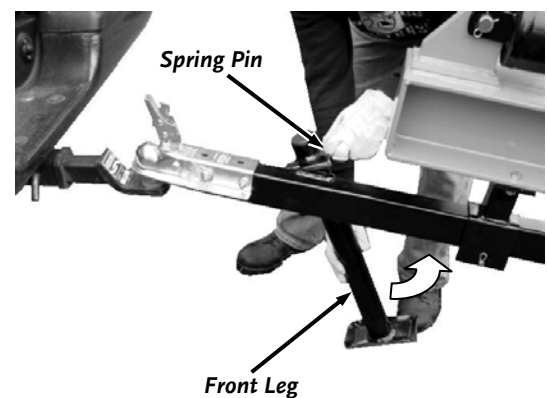

Figure 49
3. Raise the front leg to the towing position by pulling the spring pin (**Figure 49**). If not already secure, make sure the hitch coupler is properly and securely attached to the tow ball.